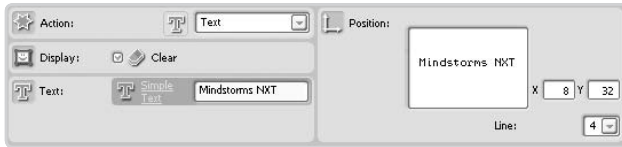

Figure 2-9: The Configuration Panel after setting the Action value to Text
- Changing the Action value causes the Configuration Panel to display a different set of options. It should now look like Figure 2-9.